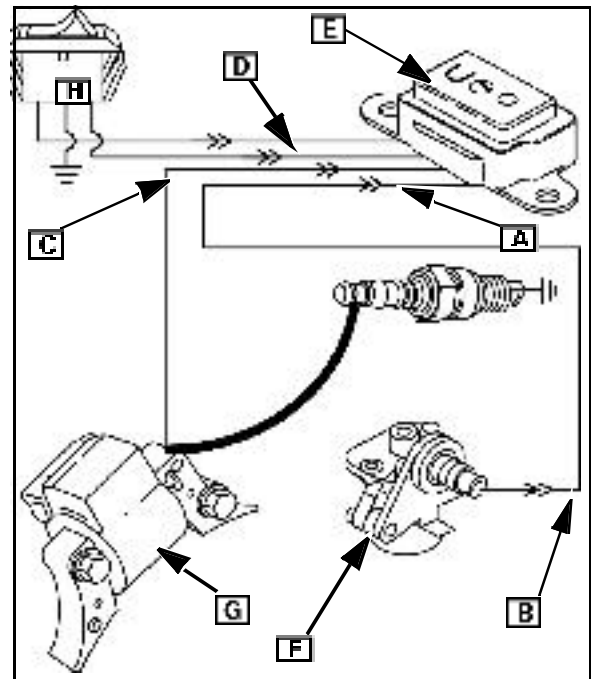

Fig. 52
- Disconnect BLUE or BLACK wire at ([A] Fig. 52) and start engine.
- Replace the float sensor in the cylinder ([F] Fig. 52).
- Disconnect wire at ([C and D] Fig. 52) and start engine.
- Check the **ON/OFF** rocker switch ([H] Fig. 52).